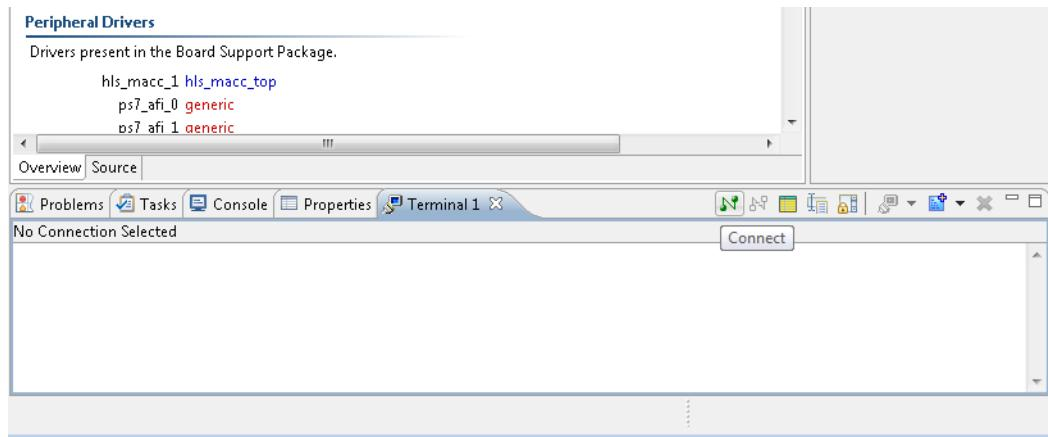

Figure 10-25: The Connect Icon
- a. Click the **Connect** icon (Figure 10-25).